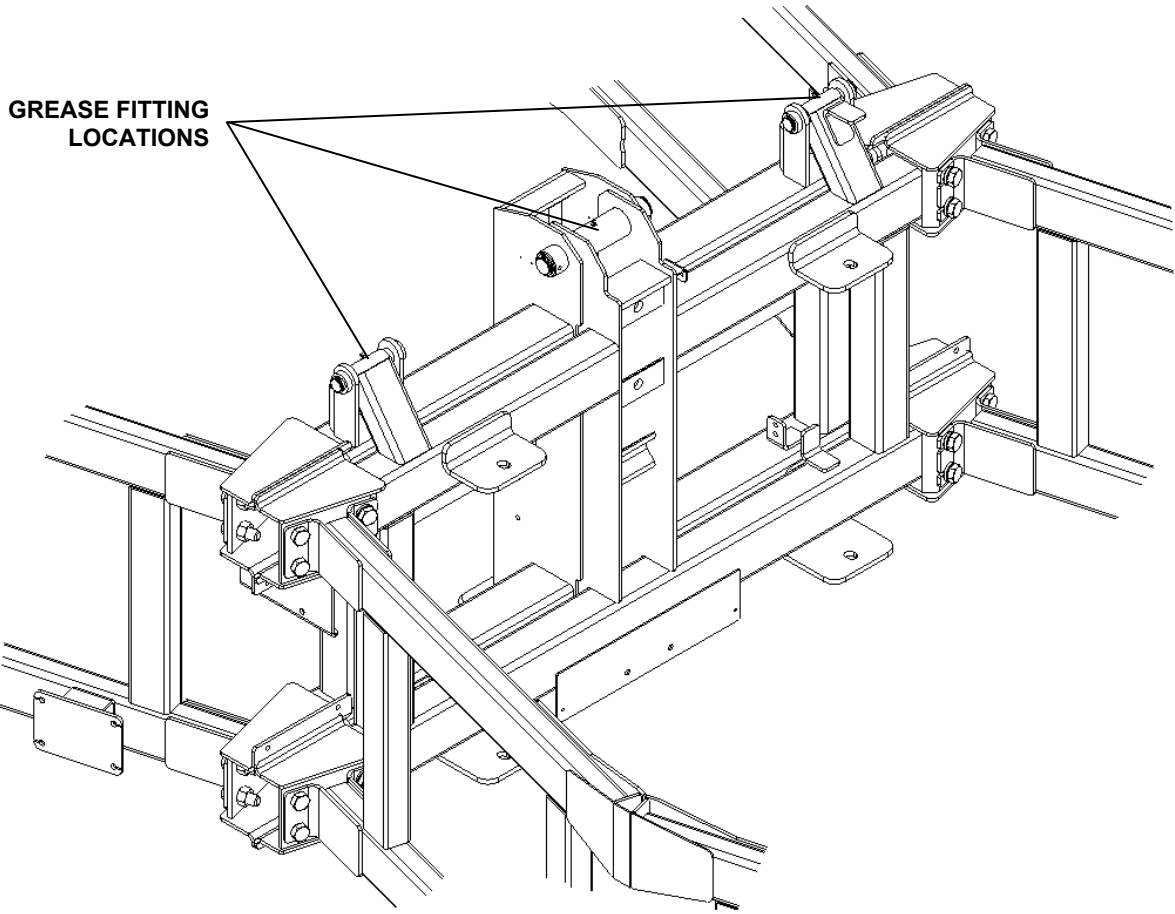

Figure 22
Figure 22 shows three (3) pivot locations equipped with grease fittings that require periodic lubrication. To prevent excessive noise and/or wear grease the locations shown below as required.